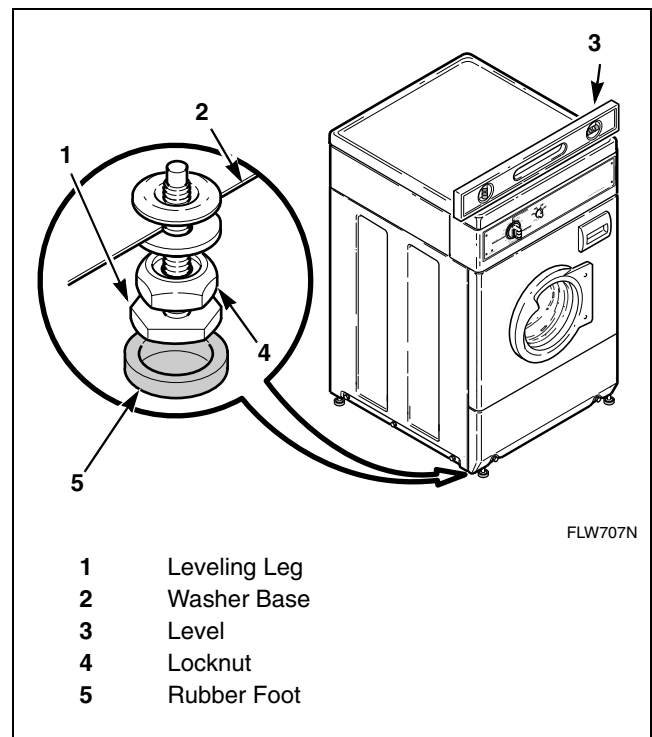

Figure 10
**NOTE: Level must rest on raised portion of top panel. Refer to *Figure 10*.**